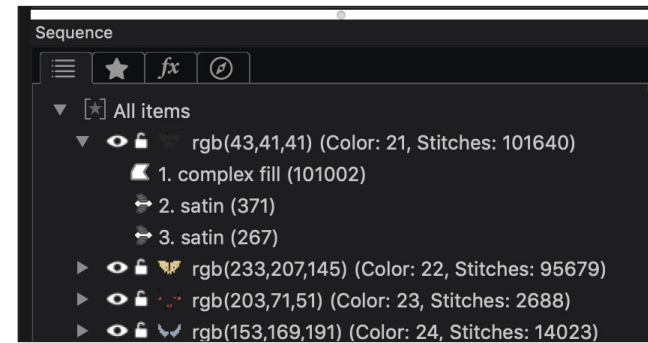

Figure 33
6. Finally, click the sequence menu to see how the color stops have been arranged. **See Figure 33.** The colors will appear in chronological order, with the first color stop being at the top and the last color stop being at the bottom. Most of the time, you'll want to extend the element of the design that will embroider first.